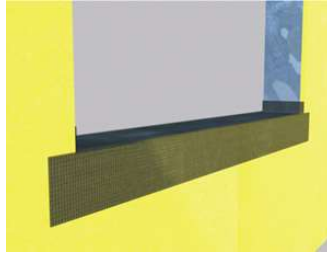

Fig. 2
- 3) Immediately lay the AquaFlash Mesh into the wet material and brush smooth adding additional material to completely embed the mesh - **Figure 2**.